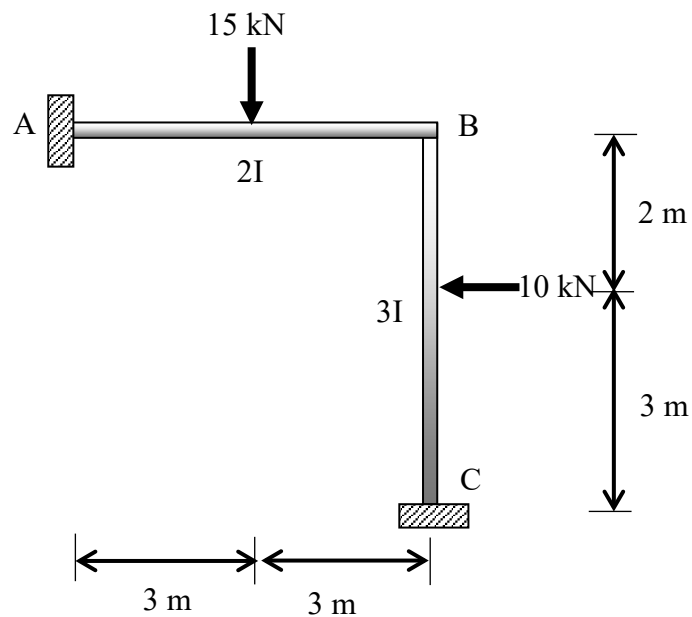

Figure B2(c) / Rajah B2(c)
- i. Calculate the reaction at the support of the portal frame in Figure B2(c).
- ii. Sketch the Bending Moment Diagram (BMD) for Figure B2(c).